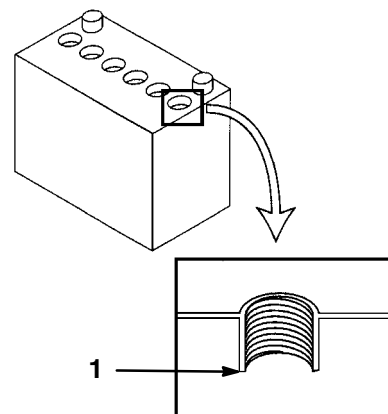

Figure 53
4. Open the cell covers to see into the cells. The electrolyte must be up to the lower part of the tube (Fig. 53). Do not allow the electrolyte to get below the plates.
2. Lift off the filler caps (Fig. 53).
3. Slowly pour distilled water into each battery cell until the level is up to the lower part of the tube (Fig. 53).